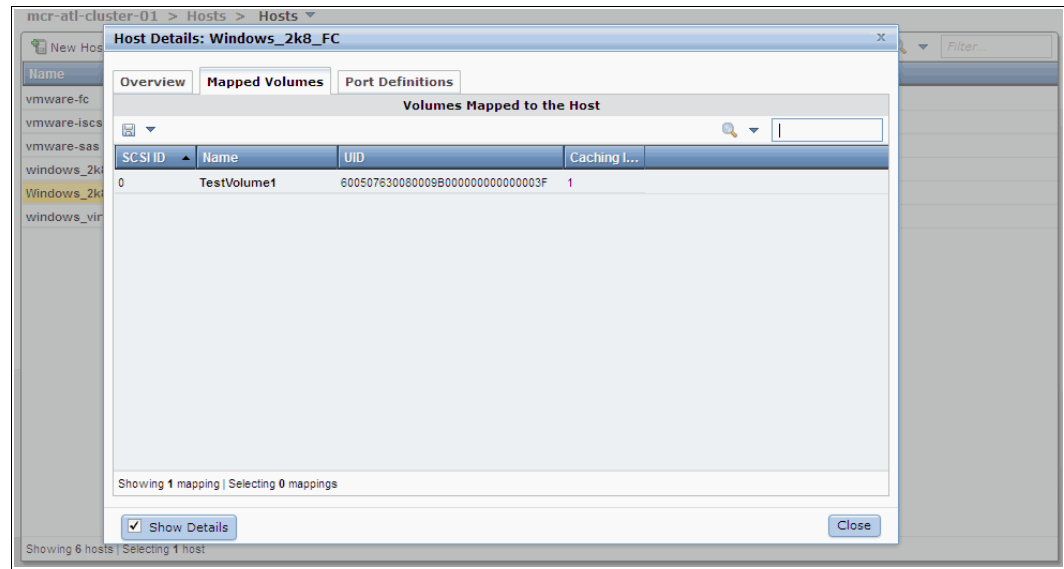

Figure 5-36 Mapped volumes to a host
2. Browse to the Mapped Volumes tab, as shown in Figure 5-36.